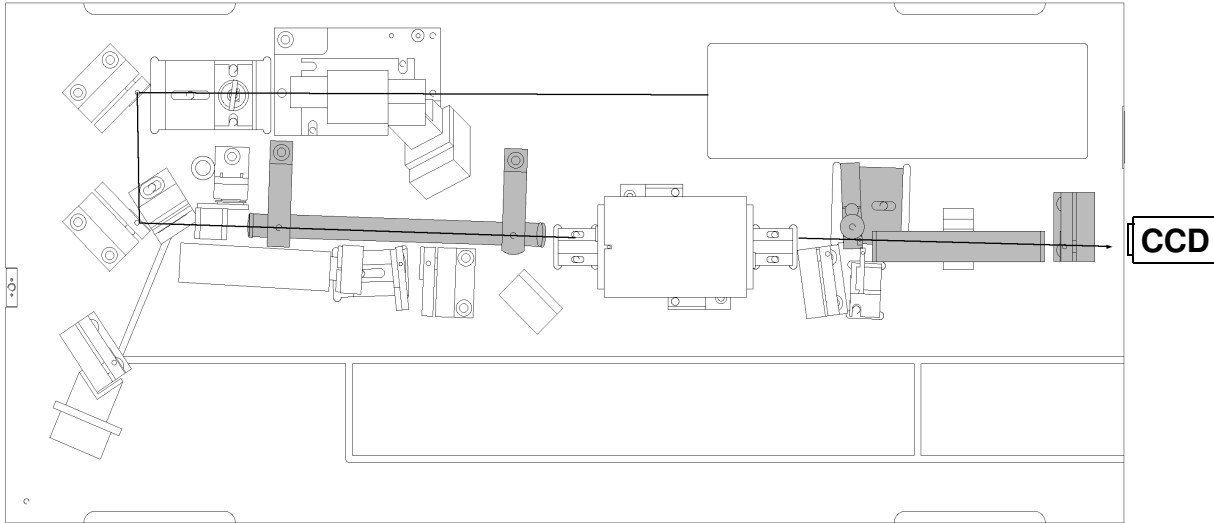

Figure 2.5-1. Alignment through Rod #1
2. Remove the following components, grey in Figure 2.5-1. **Do not remove the Thin Film Polarizer!**
3. Position the CCD camera behind the mount that held the concave mirror, Figure 2.5-1.